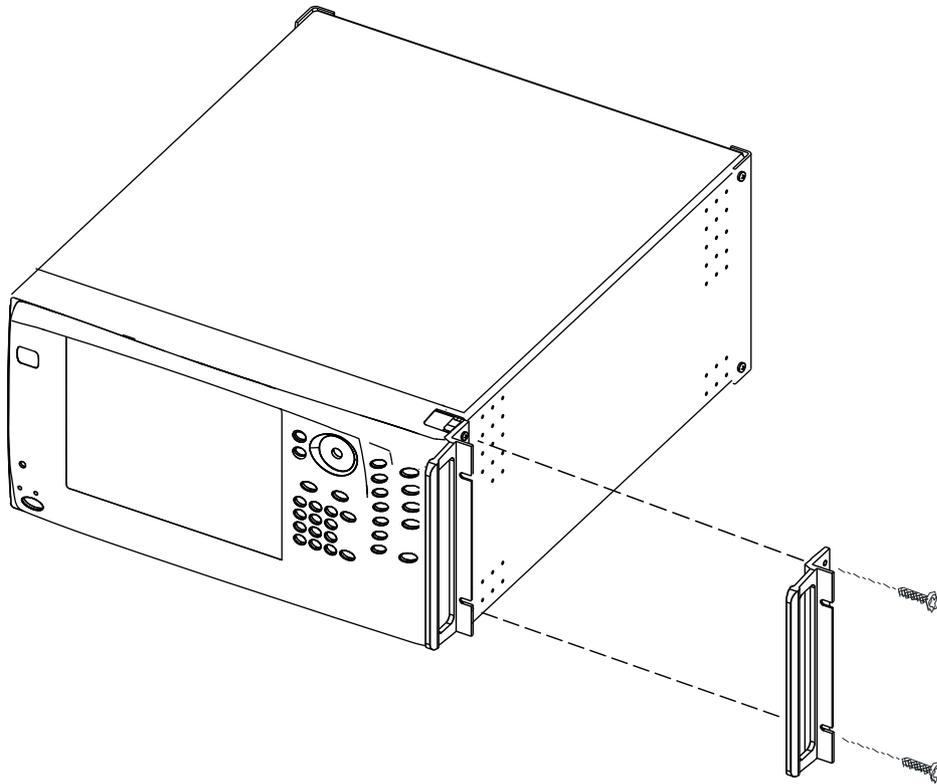

Figure 2-2. Attaching Rack Mount Ears to Instrument
4. Install the rack mount bracket onto the instrument sides using the green-headed screws removed earlier (see Figure 2-2).